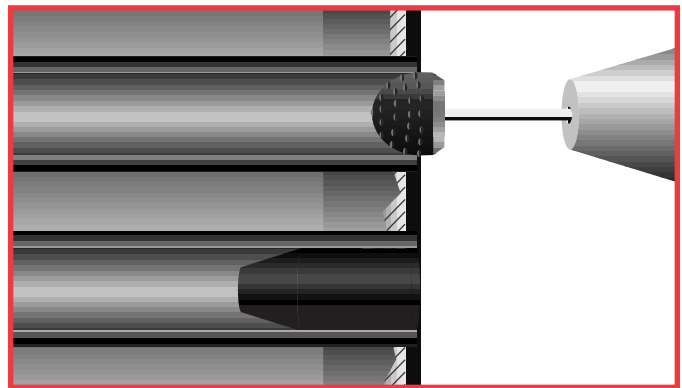

Figure 39. Smooth ends of tubes by grinding.
7. To provide a clean finish in the tubes, allowing an easy flow of liquid, smooth the opening of the tubes to remove excess epoxy. Use a conical grinding bit for best results. (See figure 39)